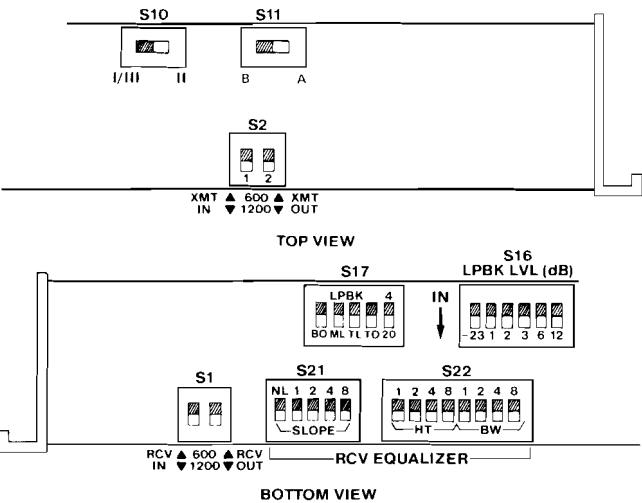

figure 10. 6161X option switch locations
3.06 A number of option switches must be set before the 6161X can be placed into service. These switches and their functions are described in paragraphs 3.07 through 3.10. The locations of the switches on the module's printed circuit board are shown in figure 10. Table 6 provides a convenient checklist for optioning the module.